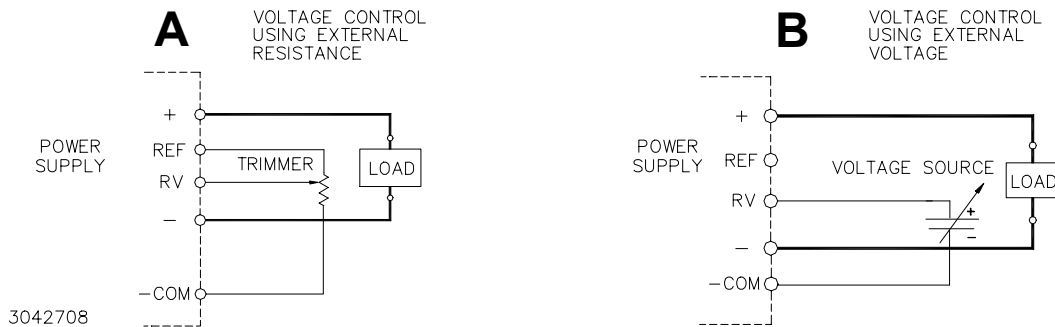

FIGURE 7. CONNECTIONS FOR REMOTE VOLTAGE CONTROL
RESISTANCE: Use a shielded wire 6.6 feet (2M) maximum in length, for connection (of REF, RV, and -COM terminals) to the trimmer control. Connect the external trimmer as shown in Figure 7 (A). Suggested value for the trimmer control is 5K ohms. With the external trimmer control at its maximum clockwise position, set the output voltage to the desired maximum value by adjusting V_{adj} clockwise. The output voltage adjustment range is from 70 to 130% for the 24V model and from 70 to 115% for the 48V model.
VOLTAGE. By adjusting an external 3.5 to 6.5V voltage source the 24V model can be adjusted from 70 to 130% of the nominal output. By adjusting an external 3.5 to 5.75V voltage source the 48V model can be adjusted from 70 to 115% of the nominal output. Remove the shorting link between the REF and RV terminal. Connect the voltage source across the RV and -COM terminals as shown in Figure 7 (B).